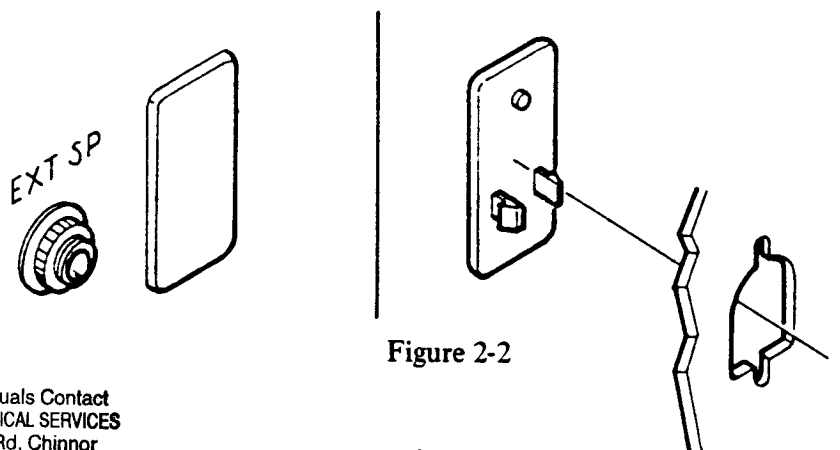

Figure 2-2
5. Grasp the terminal board and remove the small plastic cover to expose the DC Jack cutout, as shown in Figure 2-2.